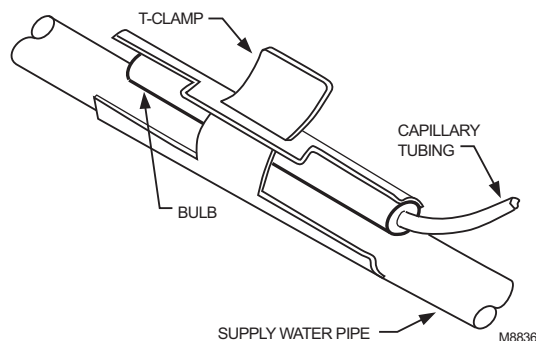

Fig. 17. Mounting bulb to pipe with pipe strap.
1. Secure the bulb to the pipe with a 105900 Pipe Strap or metal hose clamps. See Fig. 17 and 18.